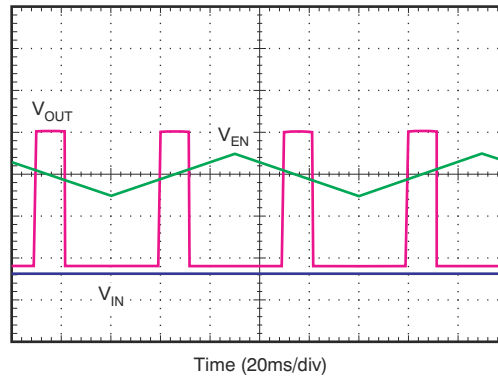

图 7-1. Enable Pin Positive and Negative Threshold
The TPS7H1210-SEP provides a dual-polarity enable pin (EN) that turns on the regulator when $|V_{EN}| > 2\text{ V}$, whether the voltage is positive or negative, as shown in 图 7-1. Specifically, if $V_{EN} \geq V_{EN(+HI)}$ or $V_{EN} \leq V_{EN(-HI)}$, the regulator is enabled. If $V_{EN(+LO)} \geq V_{EN} \geq V_{EN(-LO)}$, the regulator is disabled.